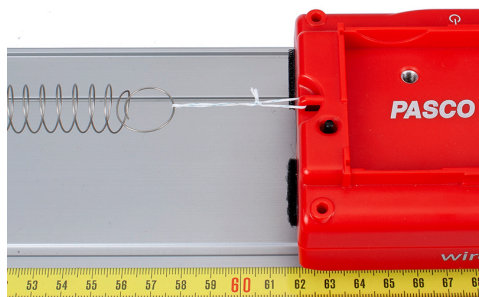
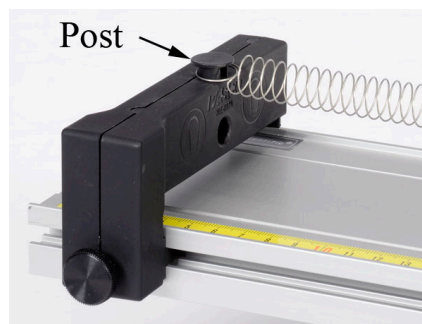

Figure 2: Attach Spring with Loop of String
Figure 3: Endstop Post
3. It is easier to attach the springs to the cart using a short loop of string as shown in Figure 2. The other end of the spring loops directly over the post on the endstop (see Fig. 3).